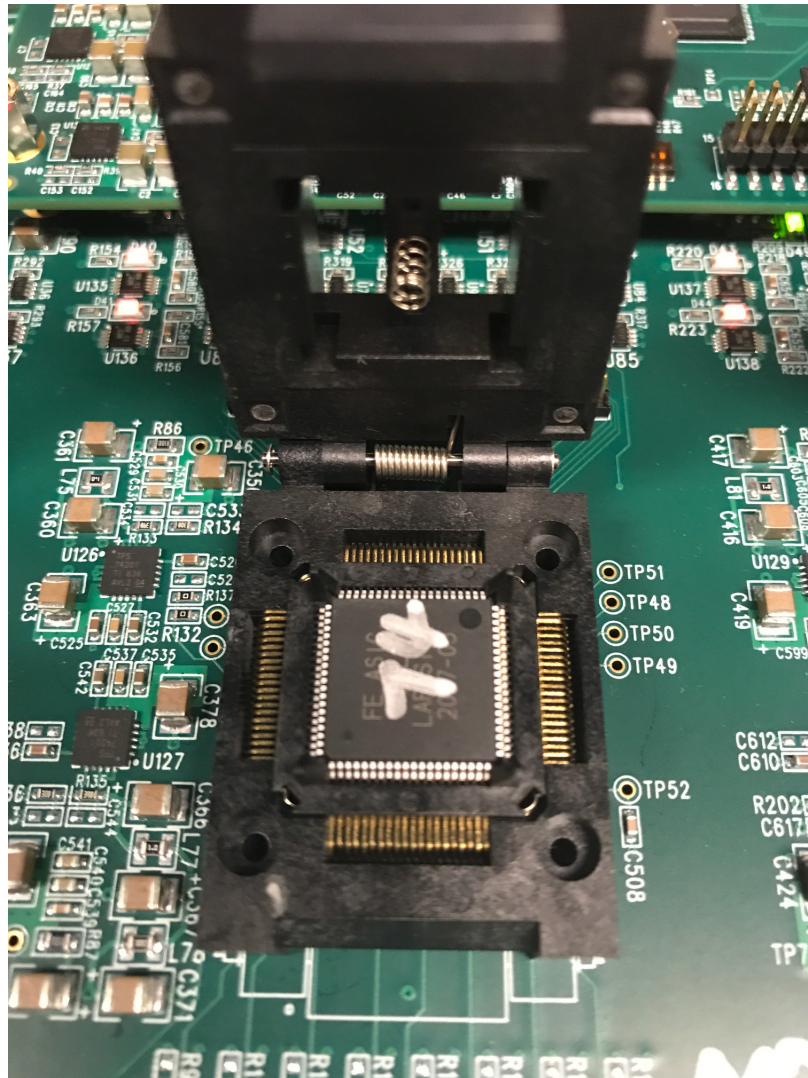

Figure 3: FE ASIC in correct orientation in socket.
4. Remove the already tested ASICs from the sockets, and replace them with the ones to be tested. The correct orientation of the FE in the socket is shown in Figure 3. The large dot should be in the upper right corner and the small dot in the lower left. Do NOT use the writing on the ASIC to align it.